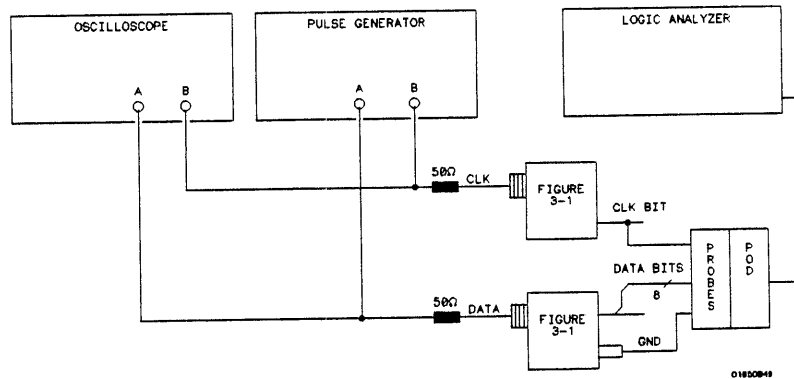

Figure 3-14. Setup for Data Test 3
- Press RUN. The State Listing is displayed and lists all 0s for the channels under test, if passed test, as in figure 3-14.